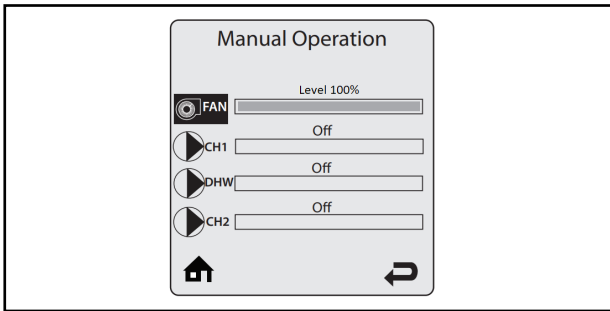

Fig .6
- Operate boiler to High Fire 100% in service mode (Fig.6).
- Operate appliance to High Fire 100% (Fig.6) Record High Fire CO₂/O₂ in Table 3 – 3.A).